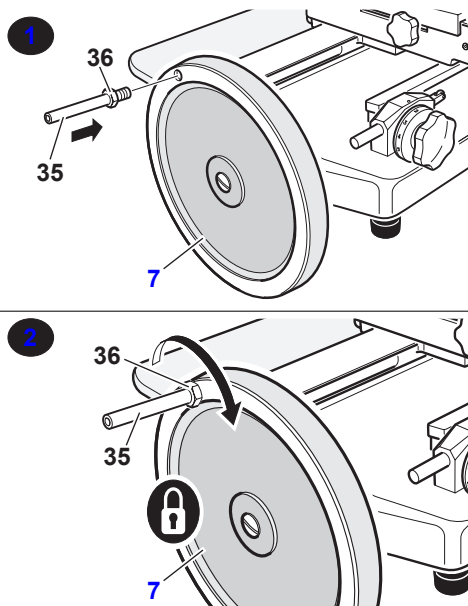

Figure 10-2
8. Screw pin (35) complete with nut (36) onto flywheel (7) (Figure 10-2).
9. Turn nut (36) clockwise to secure pin (35) to flywheel (7).